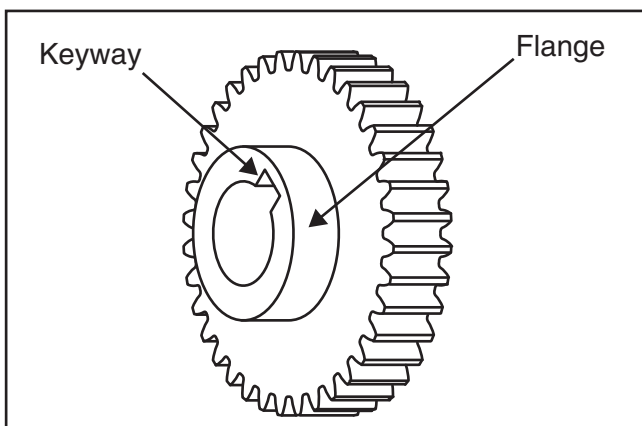

Figure 57. Change gear.
8. With the flange of the gear pointing away from the headstock (see **Figure 57**), align the keyway of the top change gear with the shaft key, then completely seat the gear on the shaft. Secure it in place with the flat washer and hex nut. DO NOT overtighten.